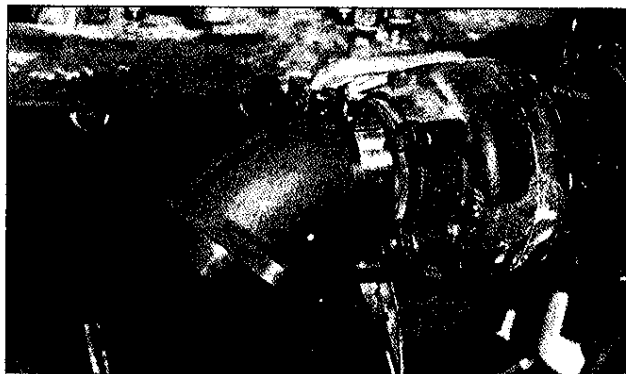

Fig. 3
- a. Remove the two bolts that attach the exhaust pipe to the exit side of the elbow (Fig. 3). Spray rust penetrant on bolts before loosening. The turbo outlet pictured is a 98 1/2. The procedure is the same for 99,2000, 2001 and 2002.